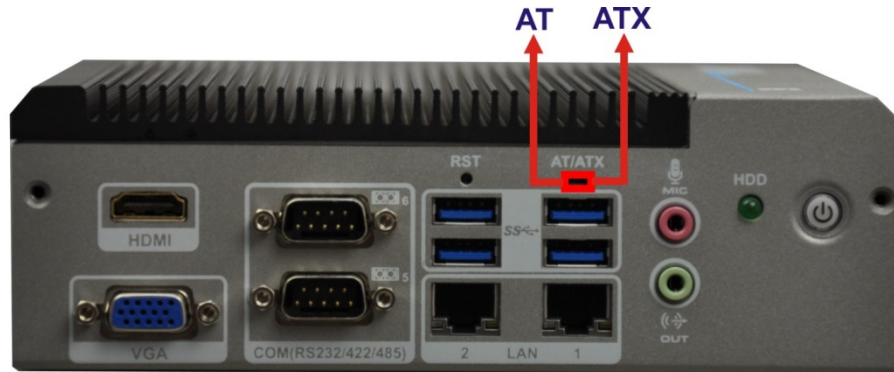

Figure 3-13: AT/ATX Switch Location
Step 1: Locate the AT/ATX switch on the bottom panel (**Figure 3-13**).